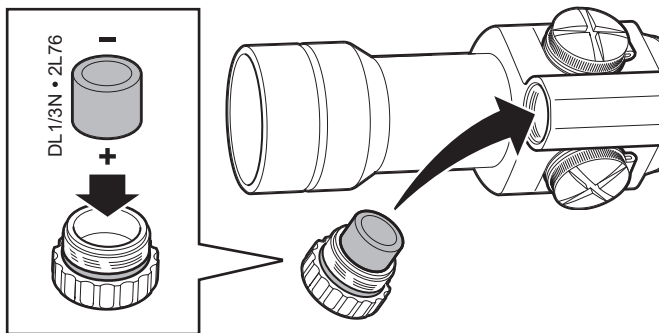

Fig. 2 → 2.1
- a Remove battery cap (2) by turning it counterclockwise.
- b Insert battery (3) with positive end (+) toward battery cap (2). See Fig 2.
- c Install battery cap (2) by turning clockwise until snug. Hand tighten only. Using tools could damage the equipment.
- d Verify that the red dot is present by turning the rotary switch (4).